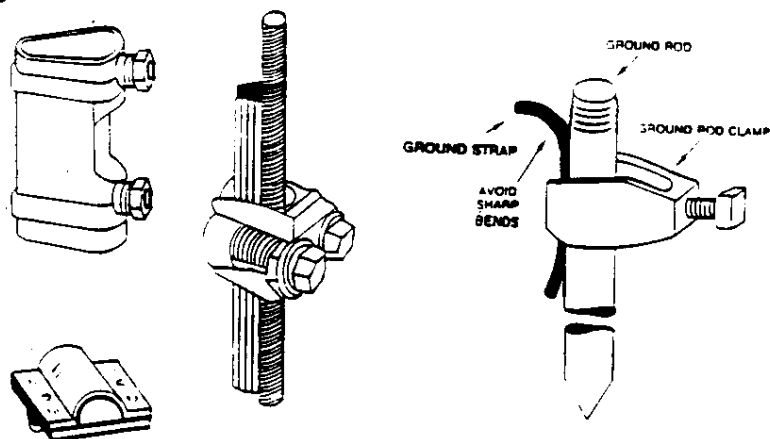

Figure 4
e. After the ground rod is in place, connect the rod to the equipment or shelter using a ground strap. Figure 4 illustrates a completed earth ground system with the rod installed and the strap attached. If you don't have a ground strap, use a piece of the heaviest gauge wire you can find, #6 AWG or larger and preferably copper.
(1) Use the terminal screw on the ground rod. If your ground rod has no terminal screw or if it is missing or broken, connect the ground strap (or the heavy wire substitute) with a tight-fitting clamp similar to those in Figure 4.